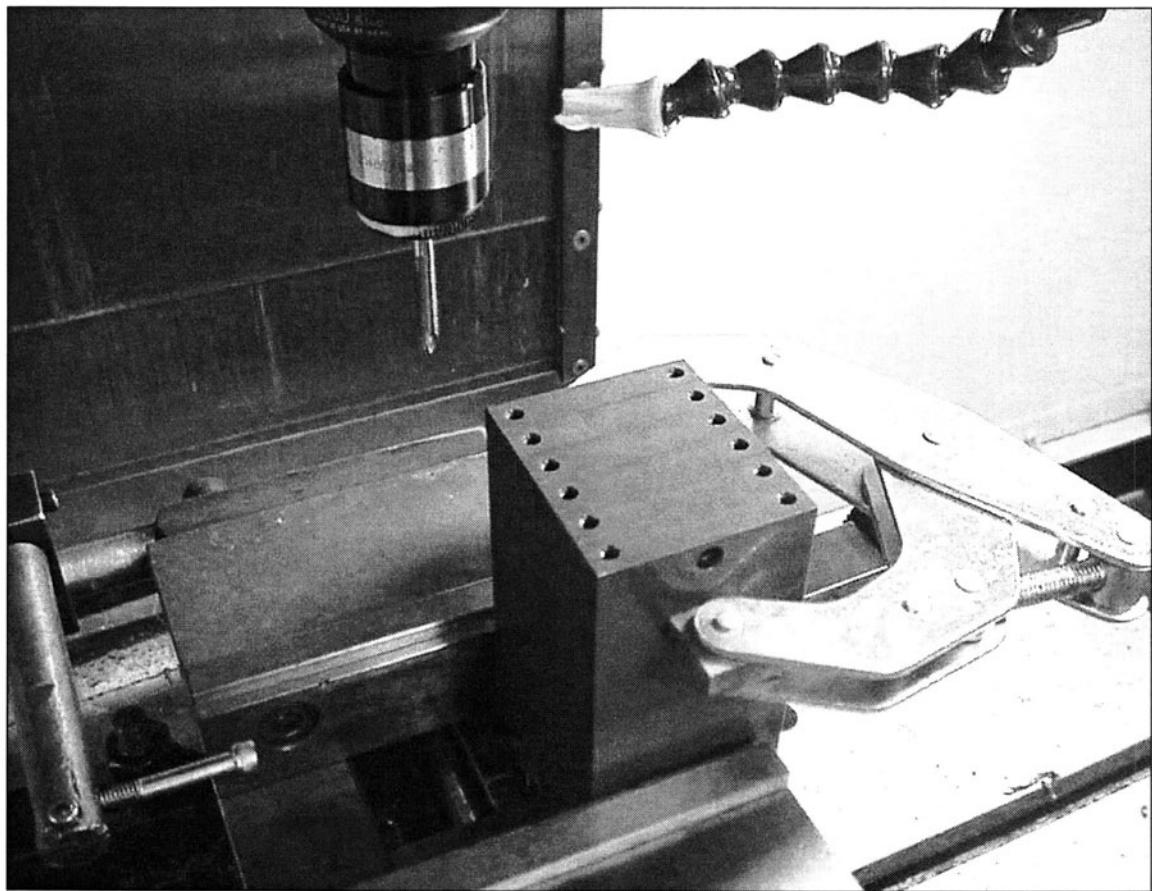

FIGURE 1-10 A stack of parts is drilled and tapped on edge.
27. *Stack parts on edge for drilling and tapping. (See Fig. 1-10)*